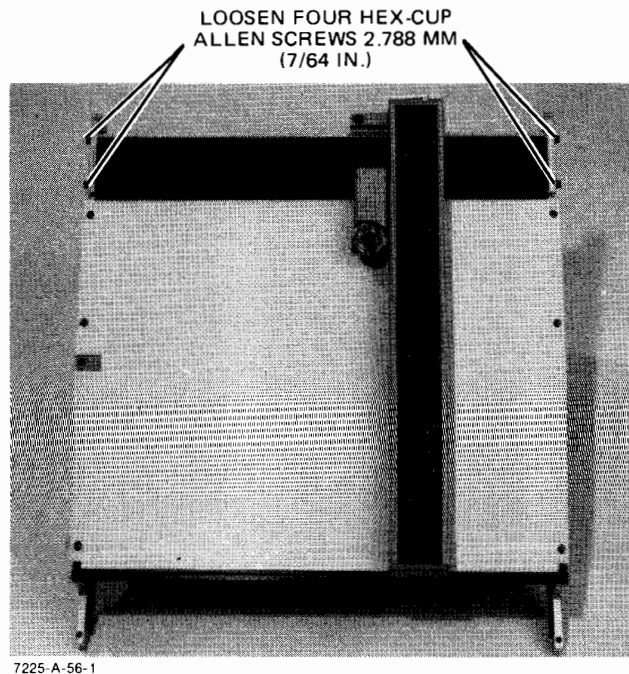

Figure 6-1. X Motor Stator
- d. If adjustment is required, use a 7/64 in. hex key wrench and loosen the X motor stator screws. See Figure 6-1.